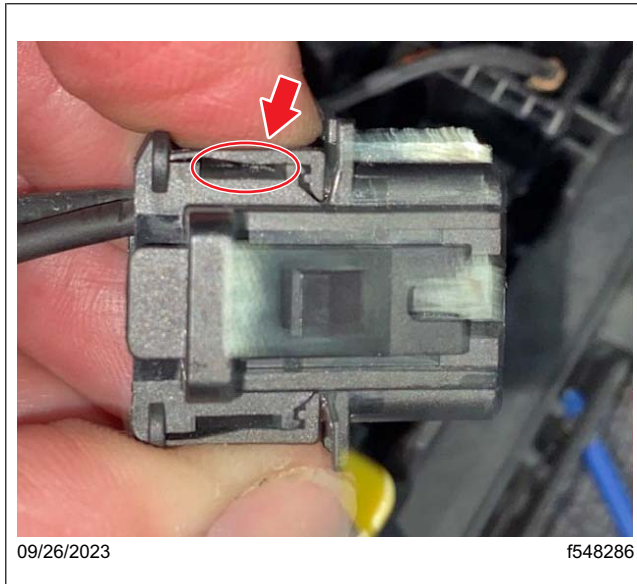
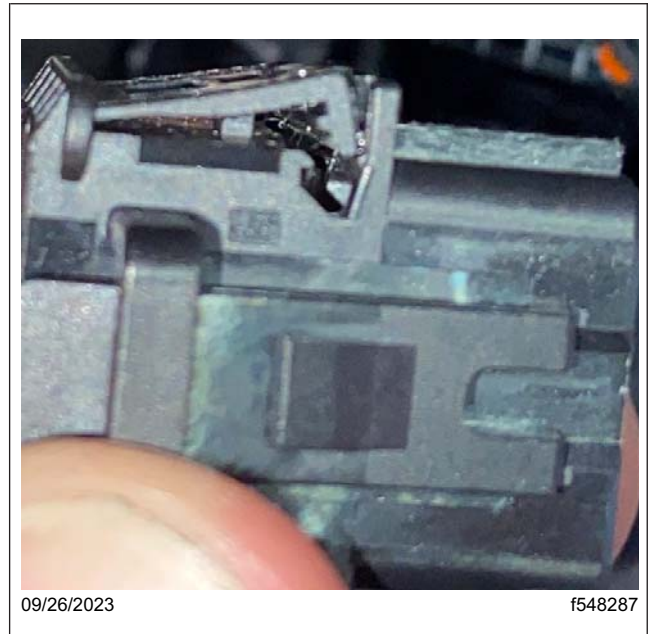

Fig. 18, SSAM X10 Connector Locking Tab
Fig. 19, SSAM X10 Connector Locking Tab in the Unlocked Position
- 8.3 Gently pry the locking tab with a small flat screwdriver in the location, shown in **Fig. 18**, to unlock the side of the connector that coincides with pin 1. **Figure 19** shows the tab in the unlocked position.